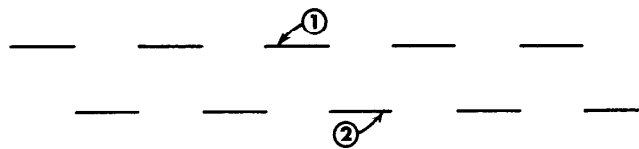
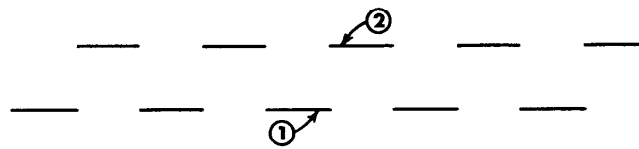
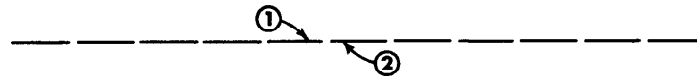

Fig. 2. POSITIONING CONTROL AT EXTREME COUNTER CLOCKWISE POS
Fig. 3. POSITIONING CONTROL AT EXTREME CLOCKWISE POSITION
Fig. 4. POSITIONING CONTROL AT SOME INTERMEDIATE POSITION
- Adjust the sweep vernier (fine frequency) control until a pattern of 6-9 cycles is locked in place on the 'scope screen, using as little sync voltage as possible. The pattern should appear as in Fig. 2.
4) The POSITIONING control permits adjustment of the separation between the "1" and "2" traces. With it you may superimpose one trace upon the other or reverse the vertical order of appearance of the traces on the 'scope screen. The extreme counter-clockwise position of this control provides maximum separation of the traces for one vertical order of appearance ("1" above "2") as shown in Fig. 2. The extreme clockwise rotation yields maximum separation for the reverse vertical order of appearance ("2" above "1") as shown in Fig. 3. At some setting of the POSITIONING control between the extremes of rotation, one trace will be superimposed upon the other as shown in Fig. 4. Turn the POSITIONING control slowly to the maximum clockwise position and back to the maximum counter-clockwise position observing the action described above.